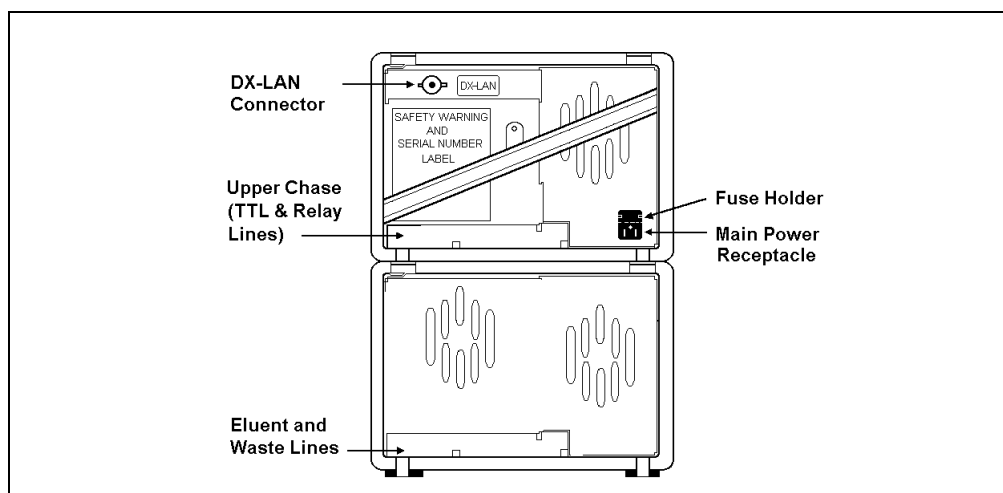
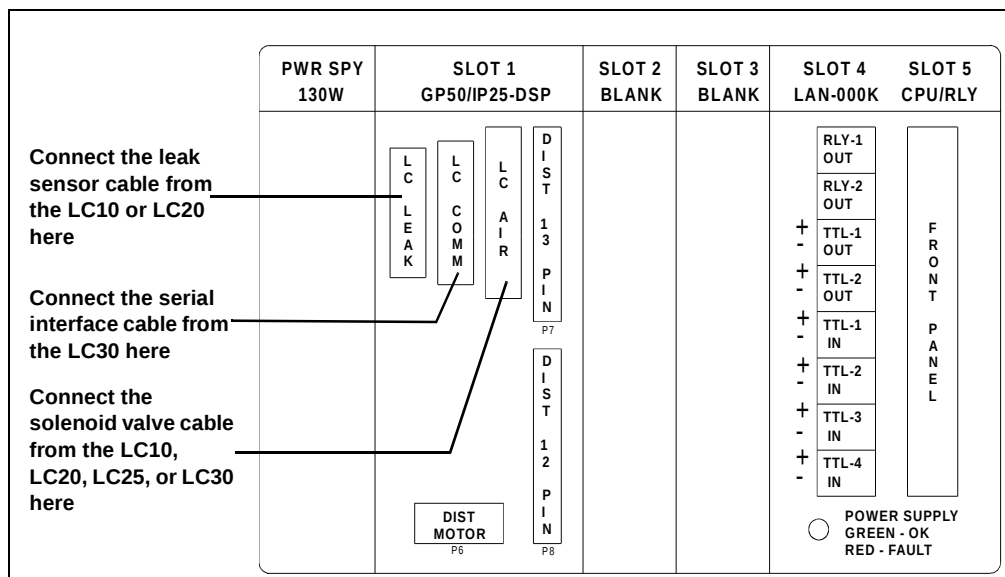

Figure B-1. GP50 Rear Panel
Figure B-2. GP50 Electronics Chassis
To implement: Connect a modular power cord (IEC 320 C13) from the GP50 main power receptacle (see Figure B-1) to a grounded, single-phase power source. Use the GP50 power switch to turn the pump power on and off.
1. Route the leak sensor cable from the rear of the LC10 Chromatography Organizer or the LC20 Chromatography Enclosure through the GP50 upper chase (see Figure B-1). Connect the cable to the **LC LEAK** connector in slot 1 of the pump electronics chassis (see Figure B-2).
2. Route the solenoid valve cable from the rear of the LC10 or LC20 through the GP50 upper chase. Connect the cable to the **LC AIR** connector in slot 1 of the pump electronics chassis (see Figure B-2).
Route the electronics injection valve cable from the rear of the LC25 Chromatography Oven through the GP50 upper chase (see Figure B-1). Connect the cable to the **LC AIR** connector in slot 1 of the pump electronics chassis (see Figure B-2).
1. Route the RJ-11 serial cable from the rear of the LC30 Chromatography Oven through the GP50 upper chase (see Figure B-1). Connect the cable to the **LC COMM** connector in slot 1 of the pump electronics chassis (see Figure B-2).
2. Route the solenoid valve cable from the rear of the LC30 through the GP50 upper chase. Connect the cable to the **LC AIR** connector in slot 1 (see Figure B-2).
1. To replace an existing pump interface card, remove the DX-LAN cable from the 10BASE-T DX-LAN connector on the GP50 rear panel (see Figure B-1).
2. Remove any TTL/Relay plugs from the connectors at slot 4 of the electronics chassis (see Figure B-2).
3. Connect the other end of the cable to the 10BASE-T DX-LAN connector on the GP50 rear panel (see Figure B-1).
1. To replace an existing pump interface card, remove the hex nut securing the BNC DX-LAN connector to the GP50 rear panel (see Figure B-1).
- a. Note the two small locking pins on either side of the BNC DX-LAN connector on the rear panel (see Figure B-1).